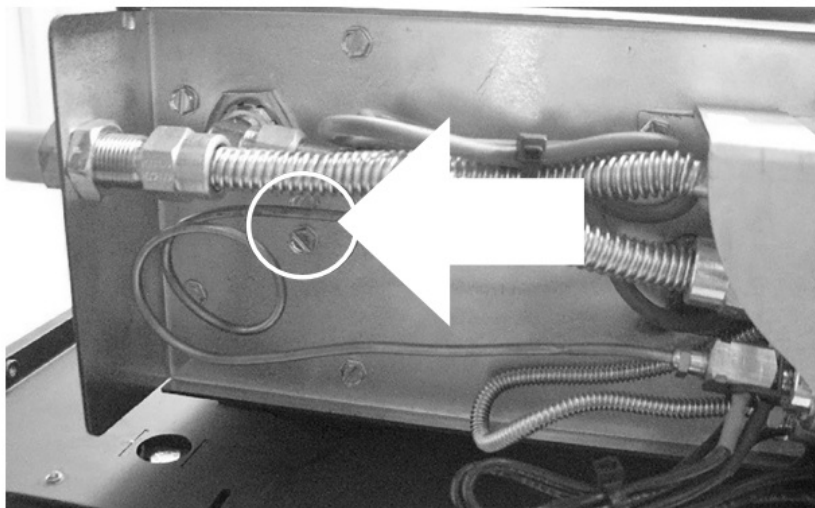

Figure 4
4. The burner is held in place by 4 sheet metal screws, 2 on the left and 2 on the right. Figure 4 shows 2 screws on the left under side of the firebox, remove these screws. Keep these screws in a safe place as they will be